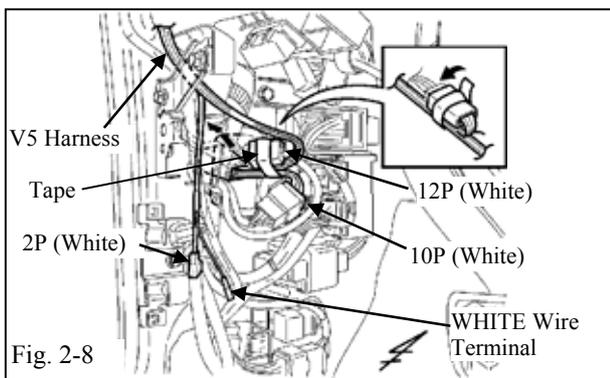

Fig. 2-8
- (j) Plug the V5 harness' white 10P connectors between the vehicle harness' white 10P connectors, then insert the white 10P connectors into the hole in the driver side cowl area. (Fig. 2-8)
- (1) Verify the connectors are plugged in securely.
- (k) Reconnect the vehicle harness' white 12P connector and secure it to the vehicle harness using electrical tape. (Fig. 2-8)